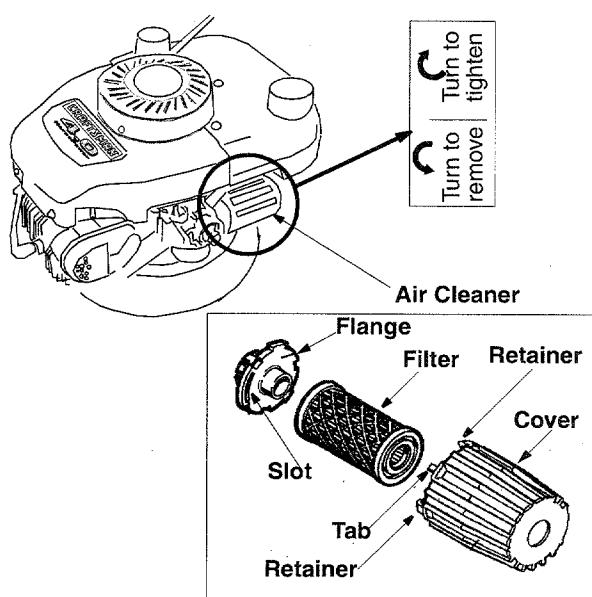

Figure 11
- Turn air filter cover counterclockwise and remove the cover and filter from the flange. See Figure 11. Discard filter.
- Place the cover and the filter against flange with tab on the cover inserted into lower left corner of slot in flange. See Figure 11.
- Push cover firmly against flange and turn it clockwise as far as it will go. Make sure that the retainers are locked around the flange. See Figure 11.